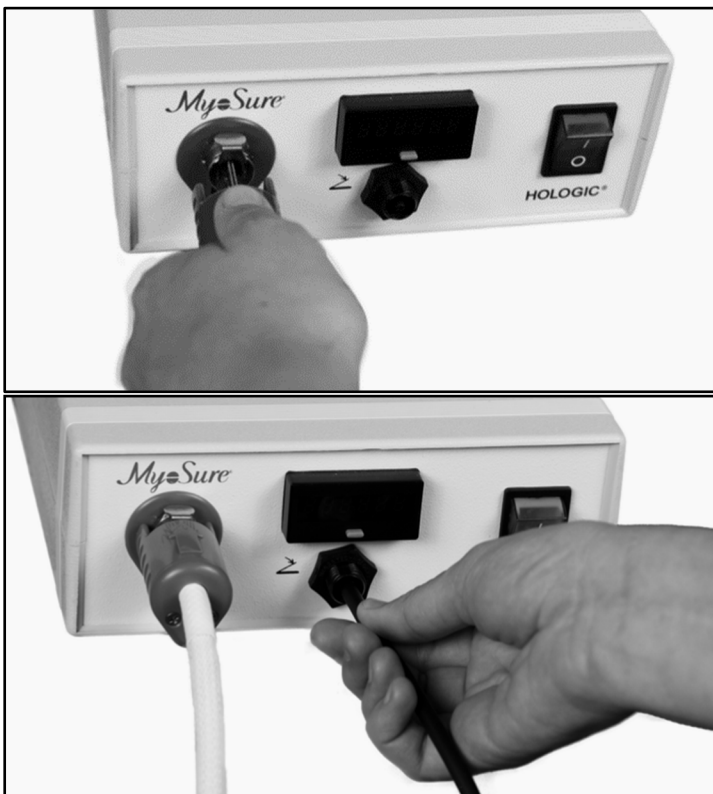

FIGURE 3: INSERT DRIVE CABLE AND FOOT PEDAL INTO CONTROL UNIT
3. Non-sterile person inserts the flexible cable into the corresponding connection on the control unit as shown in Figure 3.